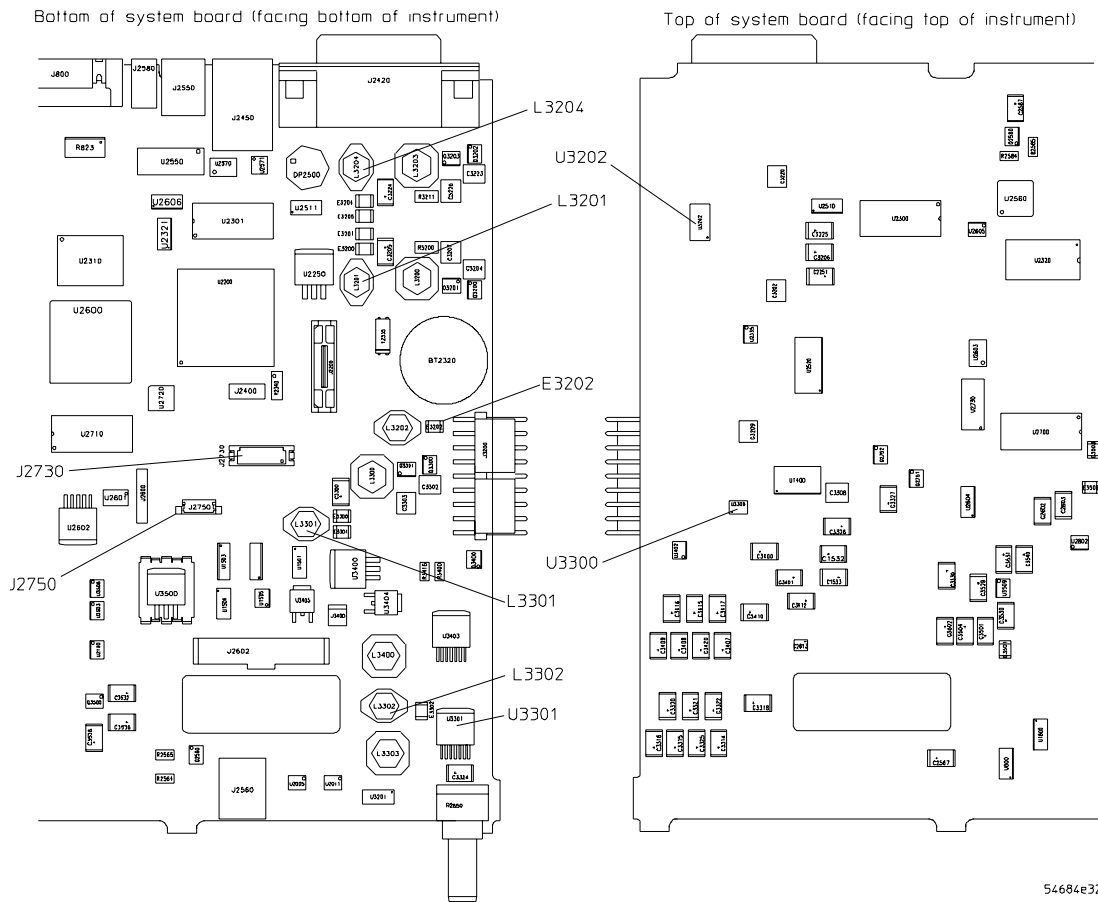

Figure 14 Power Supply Test Points
- 3 Measure the power supply voltage at E3202 on the system board. Shown in Figure 14 on page 77.
- a Refer to Figure 14 on page 77 to locate the points.